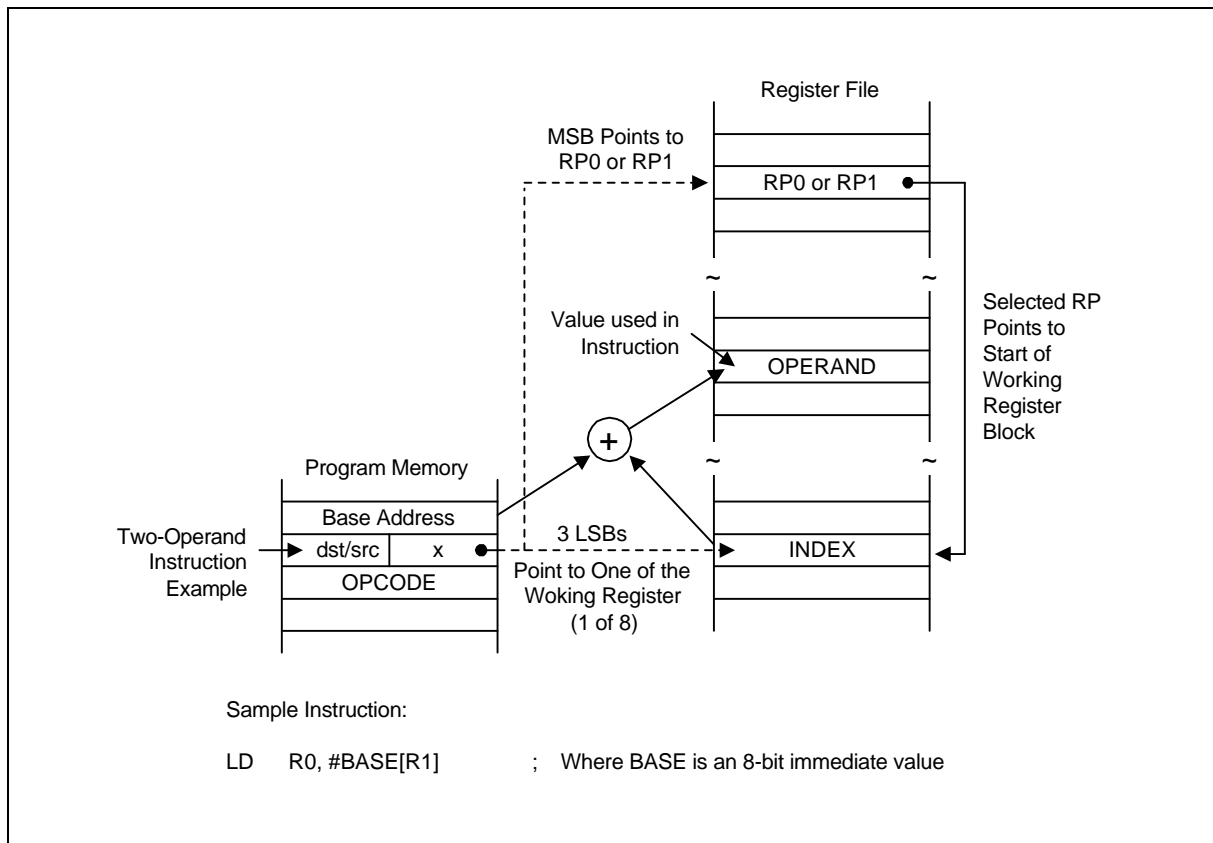

Figure 3-7. Indexed Addressing to Register File
Indexed (X) addressing mode adds an offset value to a base address during instruction execution in order to calculate the effective operand address (see Figure 3-7). You can use Indexed addressing mode to access locations in the internal register file or in external memory (if implemented). You cannot, however, access locations C0H–FFH in set 1 using Indexed addressing.